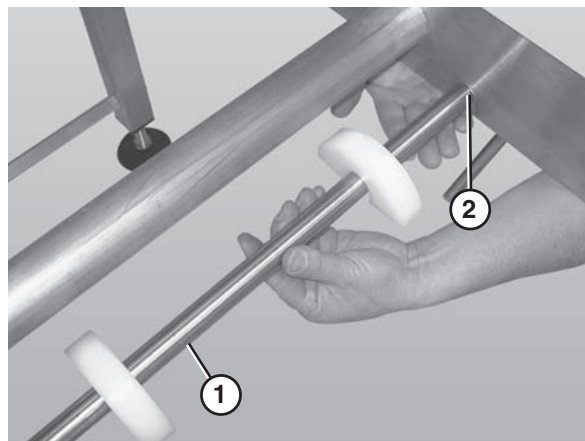

Figure 42
2. Slide the return shaft (Figure 42, item 1) up and through the large slot (Figure 42, item 2) in the frame (picture shown without the belt or wear strips).
3. Push up on the return shaft (Figure 42, item 1) and slide the notched end of the shaft through the small slot on the opposite side of the frame.